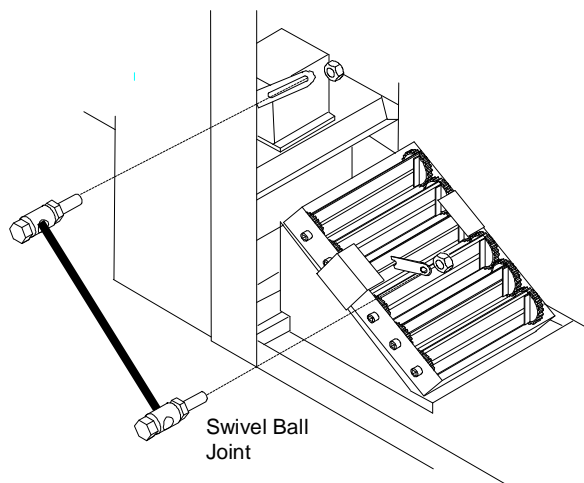

**Figure 8: Installing Economizer Unit Assembly**
13. Lift the economizer unit assembly and tilt the bottom away from the unit. Slide the top of the economizer assembly in the space between the unit top and side so that the top edge fits under the lip. See Figure 8.